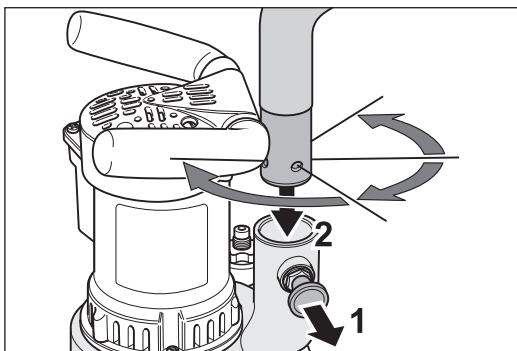

Fig. 4 Pull the stop bolt (1) and insert the pipe socket into the fan housing (2).
- 2 Pull out the stop bolt on the suction socket of the fan housing (fig. 4, 1) and at the same time insert the pipe socket into the fan housing (fig. 4, 2).